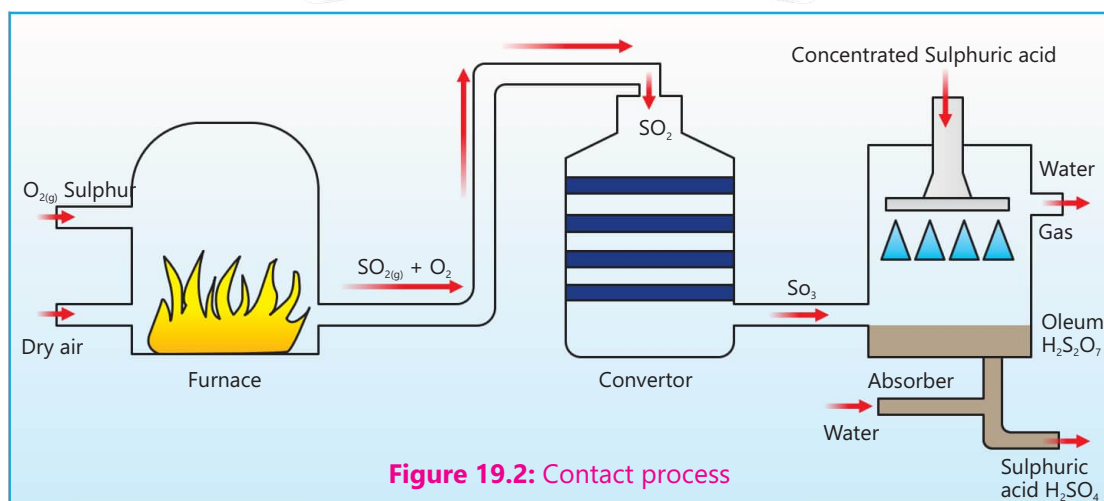

Figure 19.2: Contact process
(2) Oxidation of Sulphur dioxide
The clean and dry gases (SO_2 and O_2) are then passed over vanadium (V) oxide catalyst at 450°C and 2-3 atmospheric pressure through a contact chamber. Although the reaction is reversible yet under these conditions 98% SO_2 gas is converted to SO_3 (Figure 19.2).